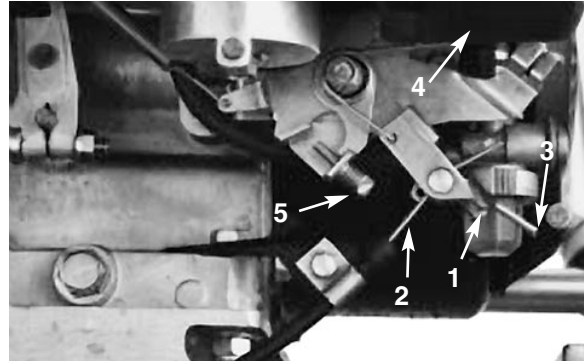

Figure 37
2. Loosen the screw securing the throttle cable to the carburetor arm (Fig 37).